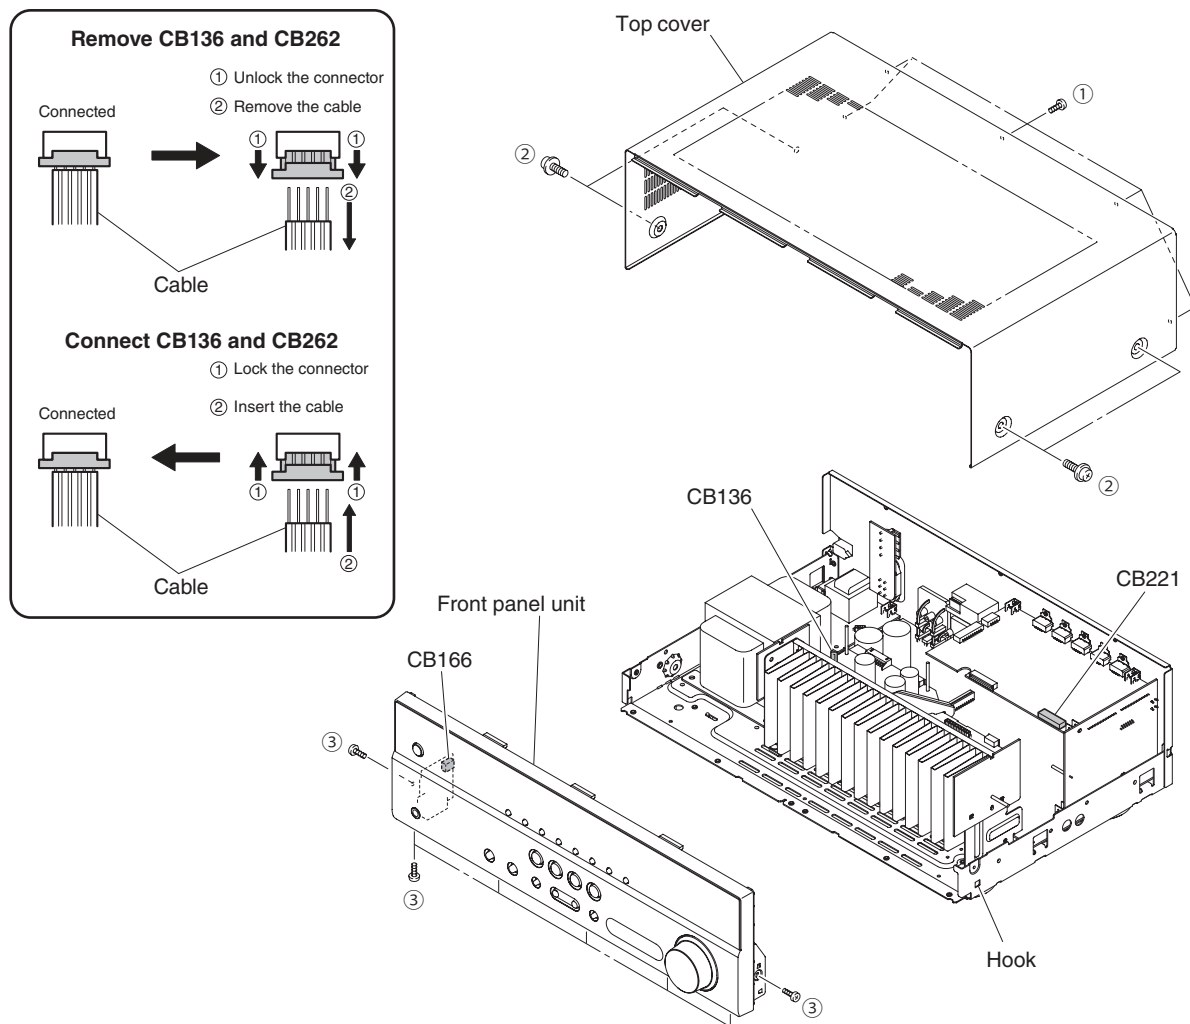

Fig. 1
- Remove 5 screws (①) and 4 screws (②). (Fig. 1)
- Slide the top cover rearward to remove it. (Fig. 1)
- Remove 7 screws (③). (Fig. 1)
- Remove CB166 and CB221. (Fig. 1)
- Unlock and remove CB136. (Fig. 1)
- Release hook and then remove the front panel unit. (Fig. 1)